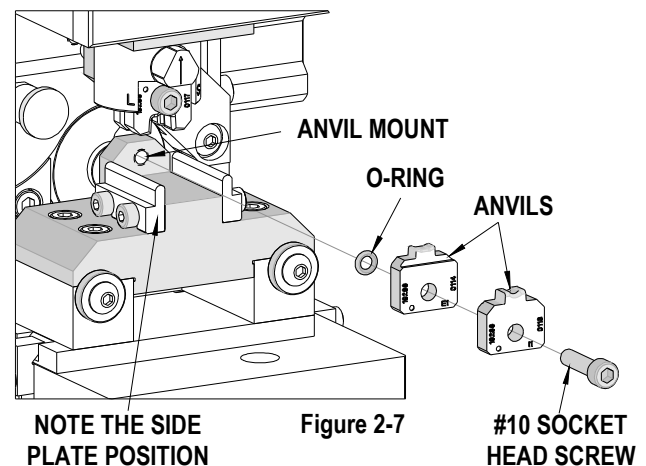

Figure 2-7
3. To remove the anvils, use a 5/32" hex wrench to remove the #10 socket head screw holding the anvils to the anvil mount. See Figure 2-7.